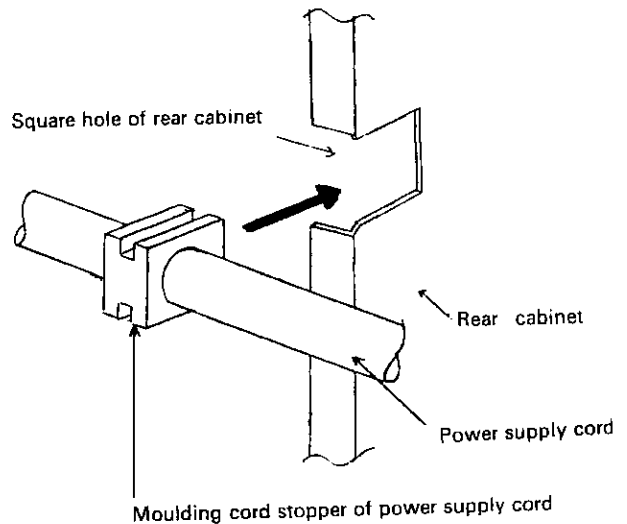

Figure C-5. Replacement of Power Supply Cord
1. Insert the moulding card stopper of power supply cord into the square hole of the rear cabinet, referring to the Figure C-5. Installation of Power supply cord.
1. Re-install the 2nd latch switch, 3rd latch switch and monitor switch in place, referring to Figure C-5
2. Re-install the 1st latch switch and stop switch in place with the two (2) screws and nuts, referring to Figure C-5
3. Re-install the latch hook to the oven cavity flange with the two (2) screws.